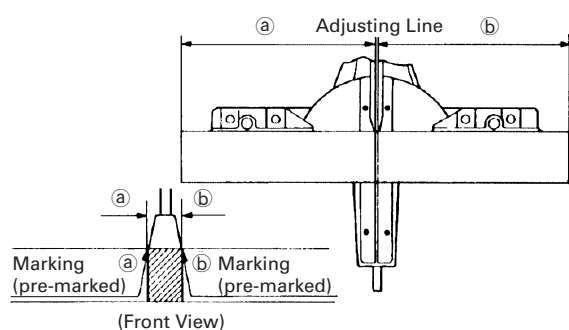

Fig. 27
- (1) As shown in Fig. 27 the width of the saw blade is the width of the cut. Therefore, slide the workpiece to the right (viewed from the operator's position) when length ⑥ is desired, or to the left when length ⑤ is desired.